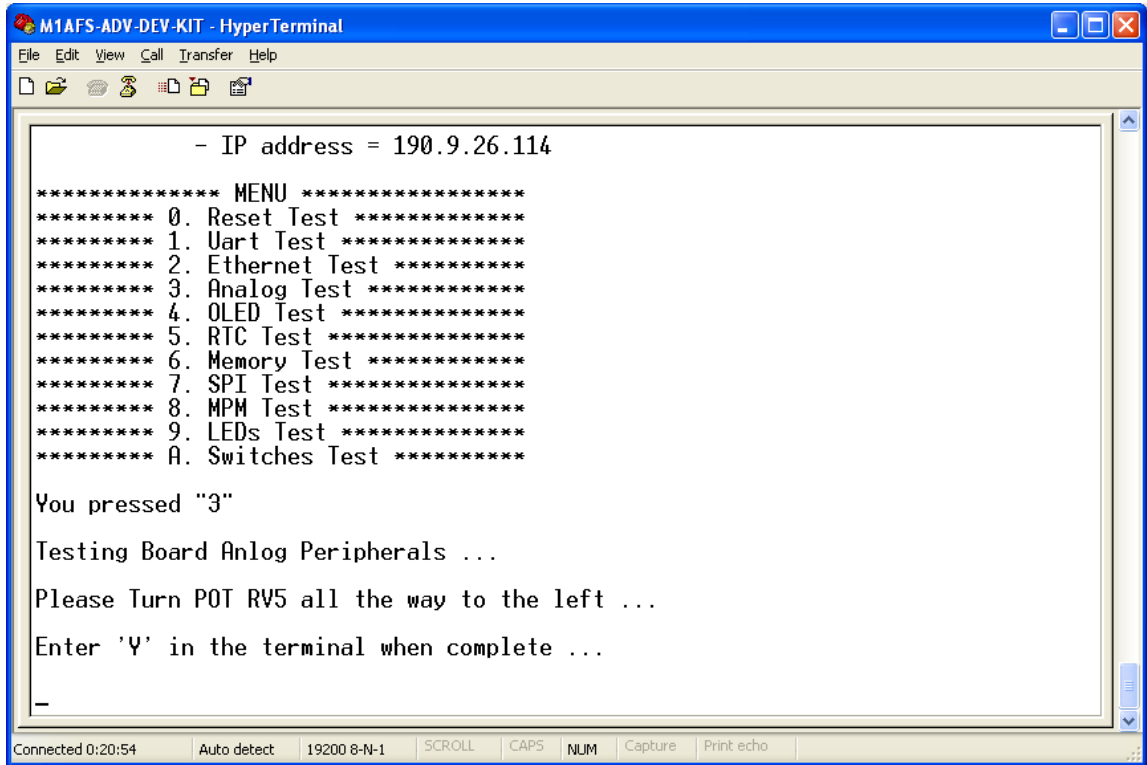

Figure C-15 · Peripherals Test
- Enter 3 into the terminal to begin the Analog Test. The screen shown in Figure C-15 should appear.